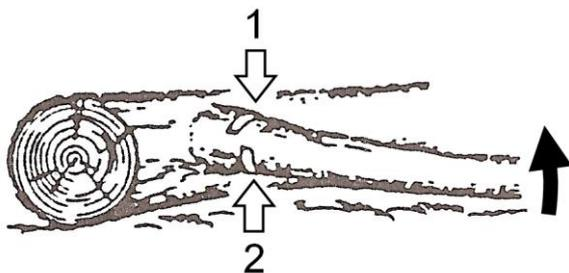

Figure 20
## **CUTTING THE LIMB OF A FALLEN TREE (Fig.20)**
- Before starting work, check the direction of bending force inside the log to be cut. Then make the initial cut from the bent side (Fig.20 No.1) and finish by sawing from the opposite side (Fig.20 No.2). Always finish cutting from the opposite side of bending direction to prevent the guide bar from being caught in the cut.